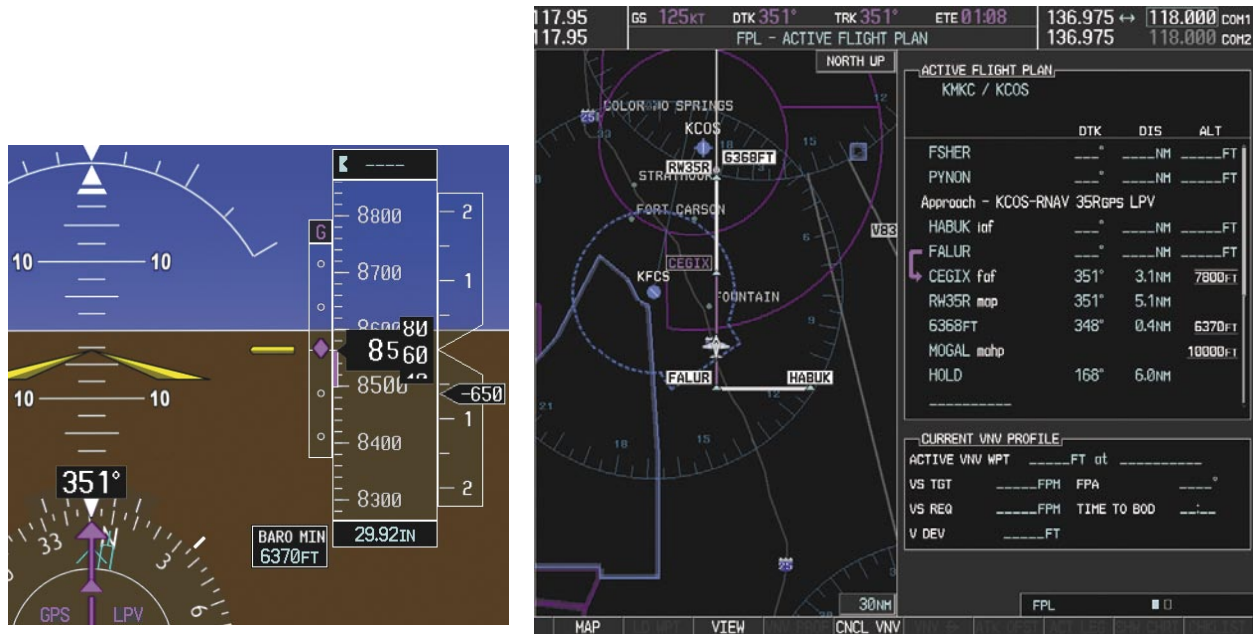

Figure 5-137 Descending to the FAF
- 23) After crossing FALUR the next waypoint is the FAF. The flight phase changes to LPV on the HSI indicating the current phase of flight is in Approach Mode and the approach type is LPV. CDI scaling changes accordingly and is used much like a localizer when flying an ILS approach. The RVSI is no longer displayed and the VDI changes to the Glidepath Indicator (as shown in Figure 5-137) when the final approach course becomes active.
The descent continues through the FAF (CEGIX) using the Glidepath Indicator, as one would use a glideslope indicator, to obtain an altitude "AT" 7,800 feet at the FAF. Note the altitude restriction lines over and under (At) the altitude in the 'ALT' field in Figure 5-137.